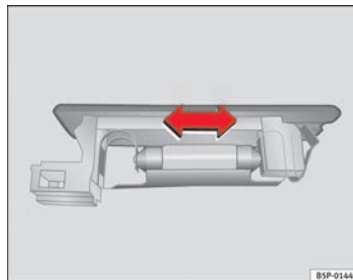

Fig. 150 Luggage compartment light
- Press the lamp sideways and remove it from its housing ⇒ fig. 150. ■